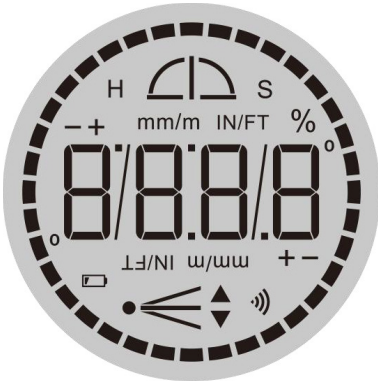

Figure 2
The electronic bubble level shows the slope in relation from a reference plane. The 36 LEDs around the display (5) imitate a physical bubble level (Fig. 2). Once the device is stable, 19 LEDs light up at the bottom of the display to determine the current slope.